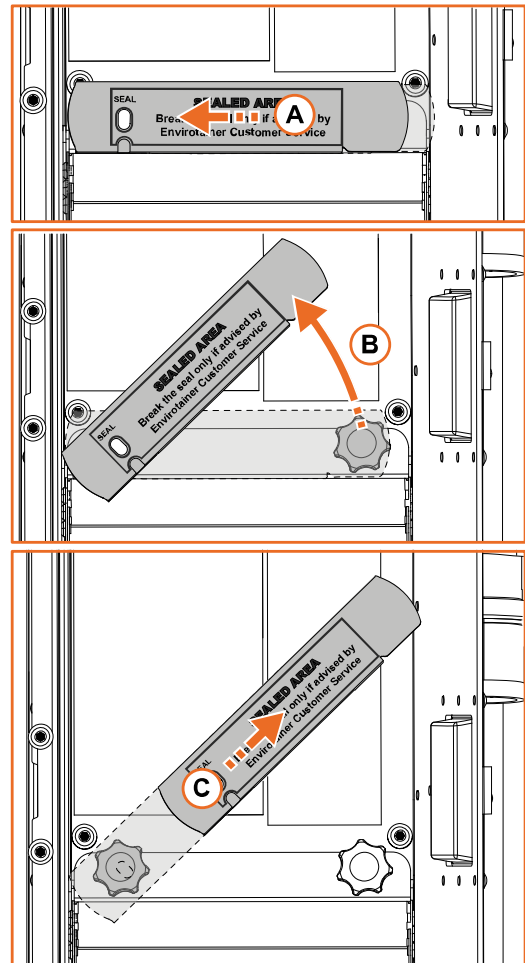

Fig. 26
3. Remove the bracket covering the two thumbscrews (**Fig. 26**):